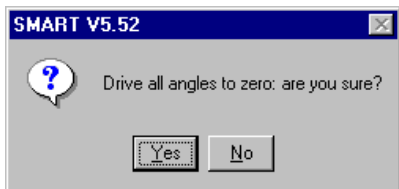

Figure 4-17. Drive all angles to zero
- Click Goniom > Zero to drive all angles to zero, and check the goniometer scales to ensure that all angles read zero. The following drive message appears (Figure 4-17).